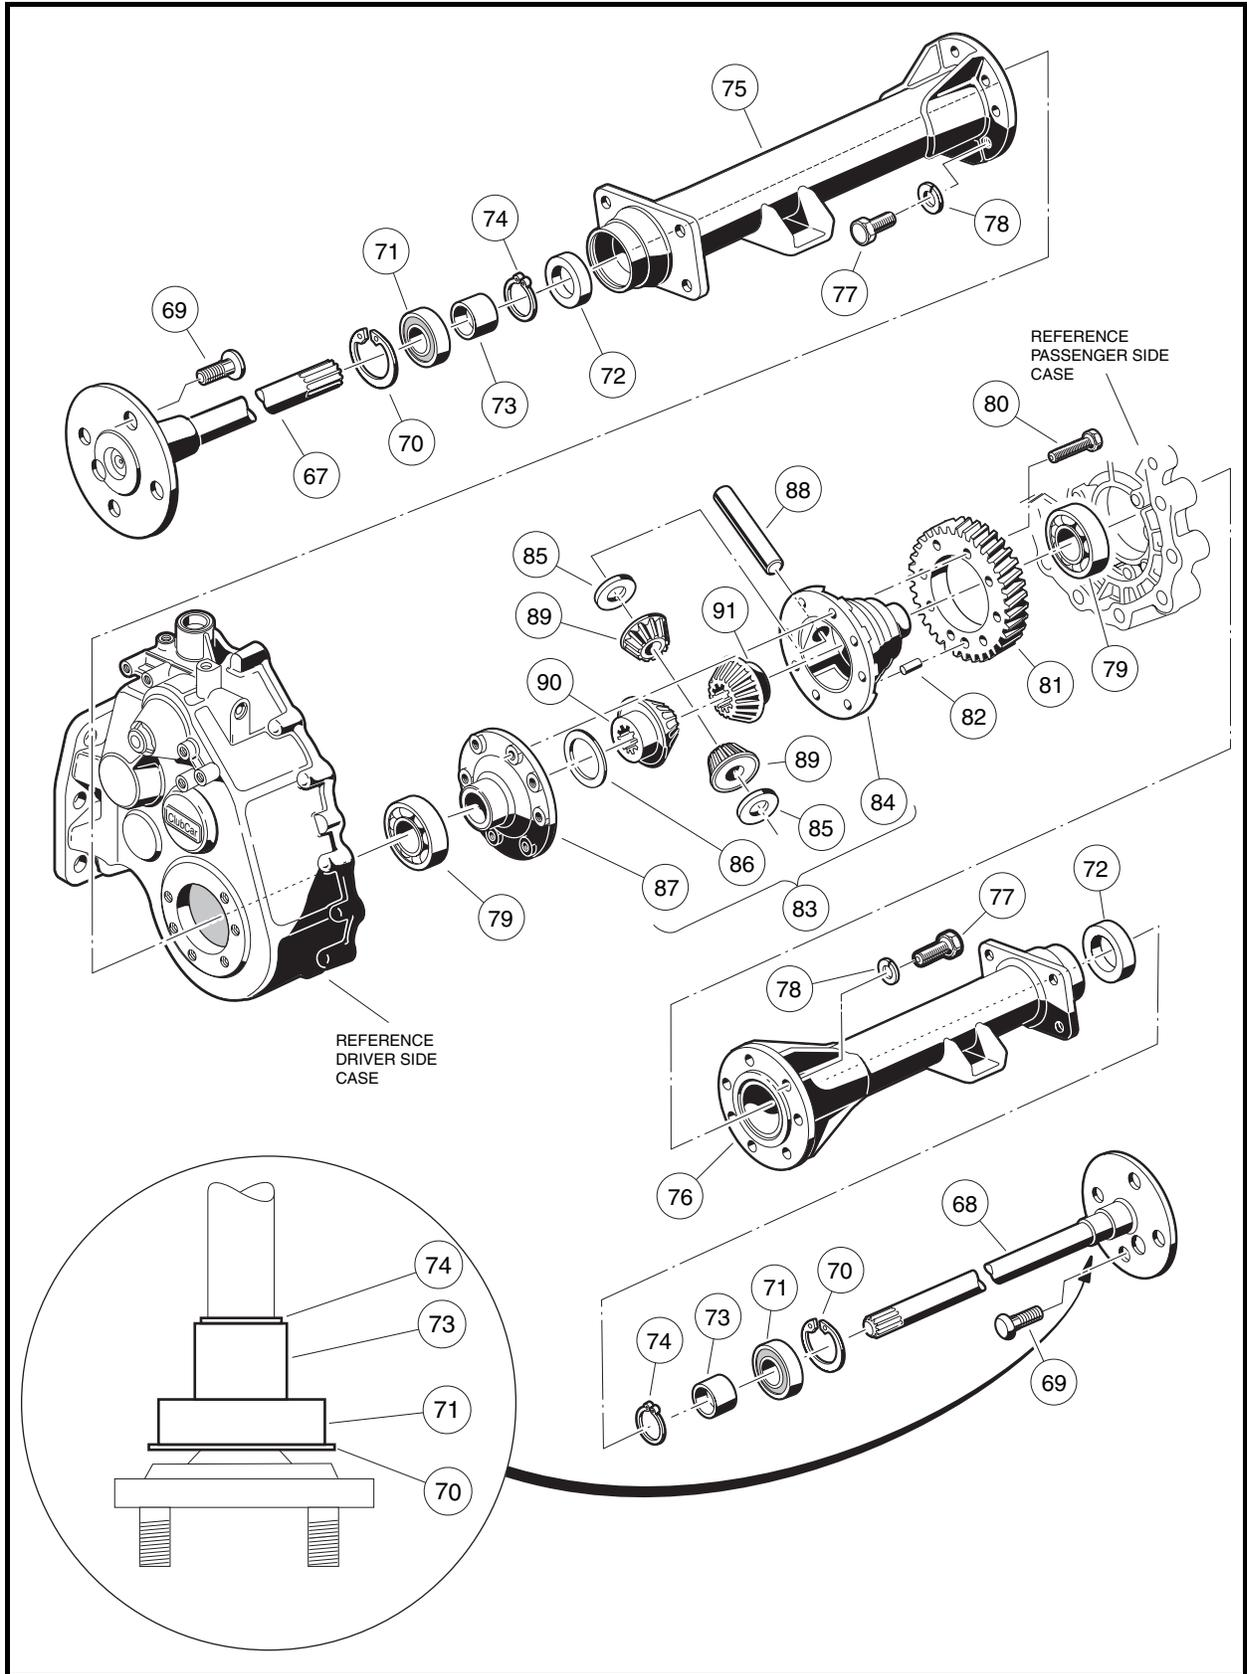
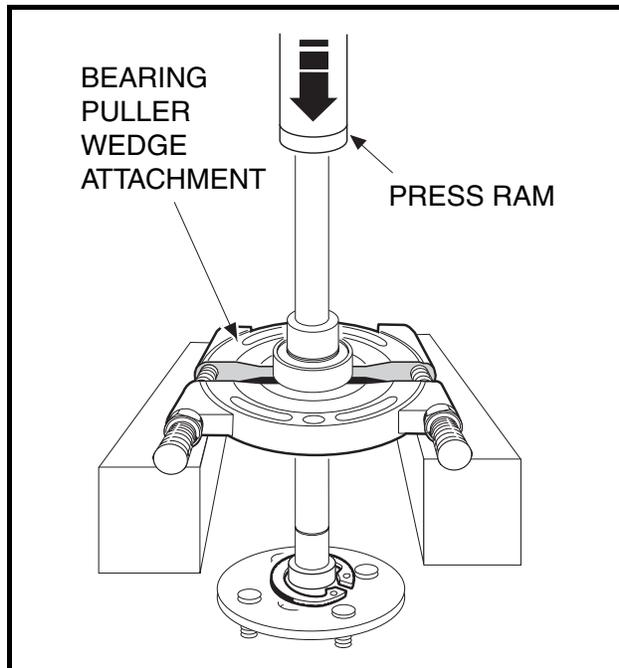
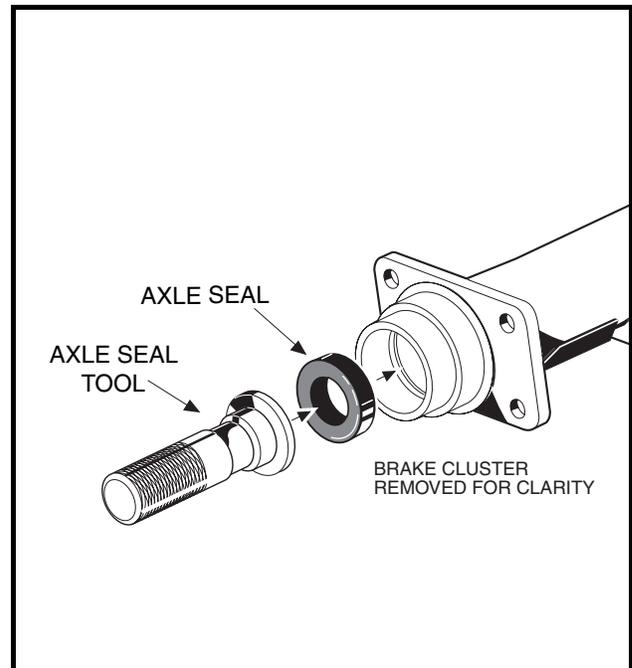

Figure 16-6 Differential Gear Case/Axle Tubes
Figure 16-7 Bearing and Collar
Figure 16-8 Axle Seal Tool
9. Inspect the axle shaft assembly to be sure the bearing (71) and collar (73) have not slipped and are still seated against the shoulder on the axle shaft (**Figure 16-6, Page 16-5**).
1. Use external retaining ring pliers (0.047-inch tip) to remove the retaining ring (74). Place a bearing puller wedge attachment (CCI P/N 1012812) on the axle shaft between the wheel mounting flange and the bearing (**Figure 16-6, Page 16-5**). See also **Figure 16-7, Page 16-7**. See following **CAUTION**.
2. Press the bearing (71) and collar (73) off together (**Figure 16-6, Page 16-5**). See also **Figure 16-7, Page 16-7**. See following **NOTE**.
Do not remove the large axle retaining ring (70) from the axle (**Figure 16-6, Page 16-5**). Since the inner diameter of the retaining ring (70) is smaller than the outer diameter of the bearing (71), the ring must be in place on the axle before a new bearing and collar are pressed on.
1. Ensure that the retaining ring (70) is loosely placed on the axle shaft. **See preceding NOTE.**
2. Install a new axle bearing (71) on axle (67 or 68). Push bearing onto axle until bearing is flush against axle shoulder (**Figure 16-6, Page 16-5**).
4. Place a new sealed bearing (71) on shaft (67 or 68) (**Figure 16-6, Page 16-5**).
5. Install collar (73) onto axle shaft. Place axle assembly on bearing puller wedge attachment and press collar onto axle.
7. Use external snap ring pliers (0.047-inch tip) to install collar retaining ring (74) (**Figure 16-6, Page 16-5**).
1. Clean bearing and seal seats in axle tube (75 or 76) (**Figure 16-6, Page 16-5**).
2. Place a new oil seal (72) in axle tube with seal lip facing inside of the axle tube (**Figure 16-6, Page 16-5**). Use an axle seal tool (CCI P/N 1014162) to press it in until it seats firmly in position (**Figure 16-8, Page 16-7**). **See following NOTE.**
4. Install the bearing retaining ring (70) in the axle tube (**Figure 16-6, Page 16-5**). **See also Figure 16-3, Page 16-3.**